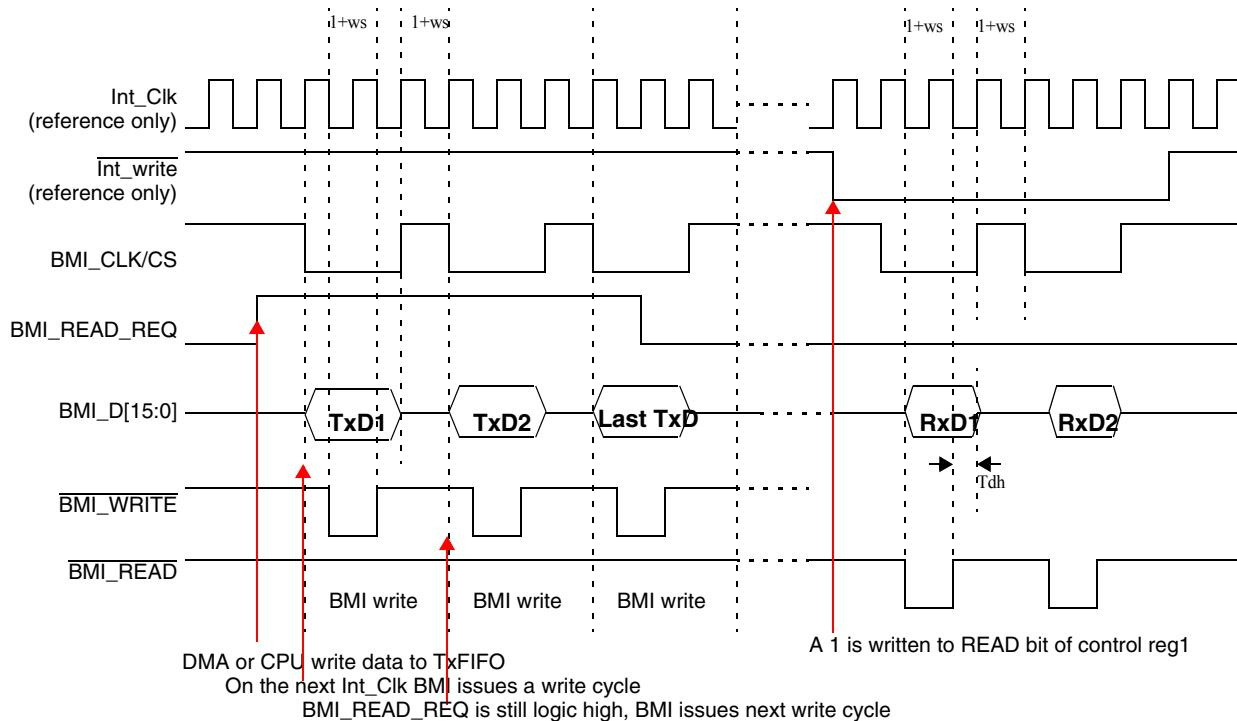

Figure 11. Memory Interface Master Mode, BMI Read/Write to External Slave Device Timing without Wait Signal (MMD_MODE_SEL=0, MASTER_MODE_SEL=1)
The WAIT control bit (BМИCTRL1[29]) is used in this mode. When this bit is cleared (default), the BМИ_WAIT signal is ignored and the CS cycle is terminated by Wait State (WS) control bits. Figure 11 shows the BMI timing when the WAIT bit is cleared.